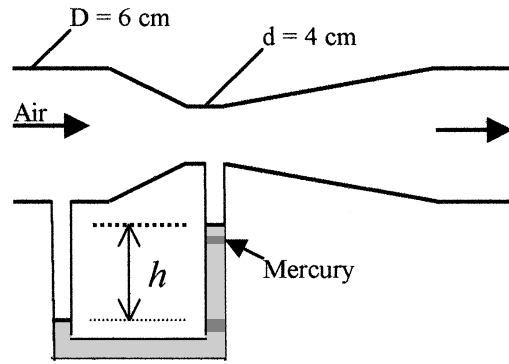

Fig. P6.161
**6.161** Air flows at high speed through a Herschel venturi monitored by a mercury manometer, as shown in Fig. P6.161. The upstream conditions are 150 kPa and 80°C. If  $h = 37$  cm, estimate the mass flow in kg/s. [HINT: The flow is compressible.]